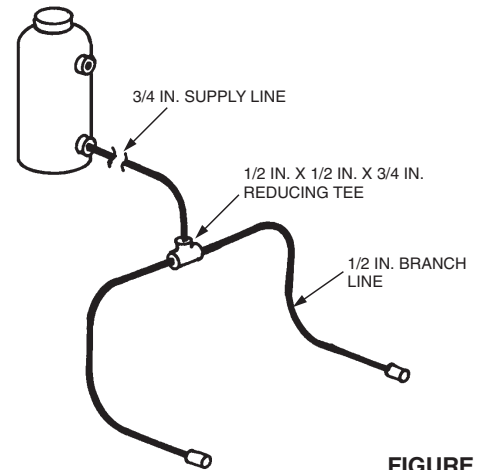

FIGURE 9D
- The ten pound system must be a balanced system having two branch lines within 10% of each other, utilizing one reducing tee and a maximum of two nozzles. See Figure 9D.